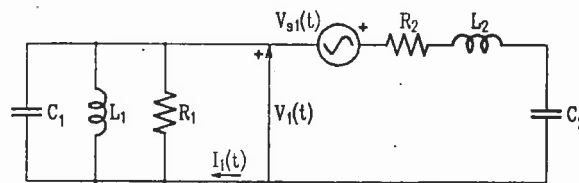

Figure 3: Circuit diagram for Question 3
In the circuit of Figure 3, parameters are: $R_1 = 5 \Omega$, $R_2 = 10 \Omega$, $L_1 = 10 \text{ mH}$, $L_2 = 2 \text{ mH}$, $C_1 = 4 \mu\text{F}$, $C_2 = 1 \mu\text{F}$, $V_{s1}(t) = 10 \cos(\omega t) \text{ V}$.
- What is this frequency called? Does any other frequency have the same property in the circuit of Figure 3?